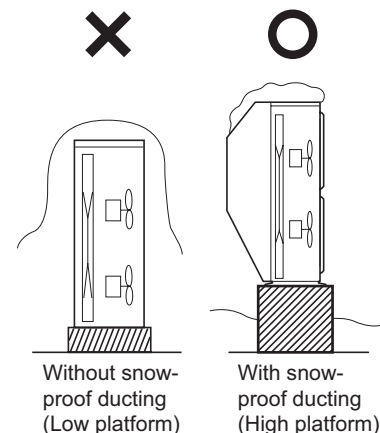

Fig. 2-11
- (1) The platform should be higher than the max. snow depth. (Fig. 2-11)
- (2) The 2 anchoring feet of the outdoor unit should be used for the platform, and the platform should be installed beneath the air intake side of outdoor unit.
- (3) The platform foundation must be firm and the unit must be secured with anchor bolts.
- (4) In case of installation on a roof subject to strong wind, countermeasures must be taken to prevent the unit from being blown over.